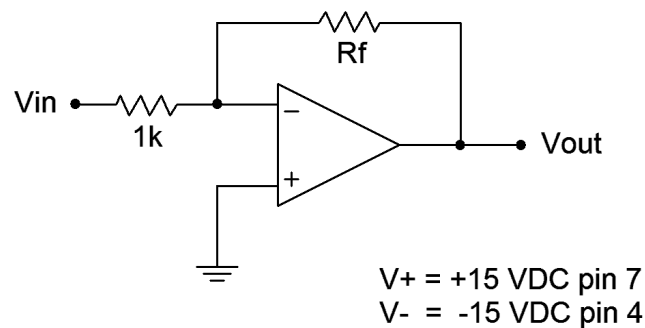

Figure 1
1. The voltage gain of the inverting amplifier can be determined accurately from the feedback resistors  $R_i$  and  $R_f$ . Calculate the voltage gains for the amplifier of Figure 1 for the  $R_f$  values specified, and record them in Table 1.
2. Assemble the circuit of Figure 1 using the  $4k7\ \Omega$  resistor.